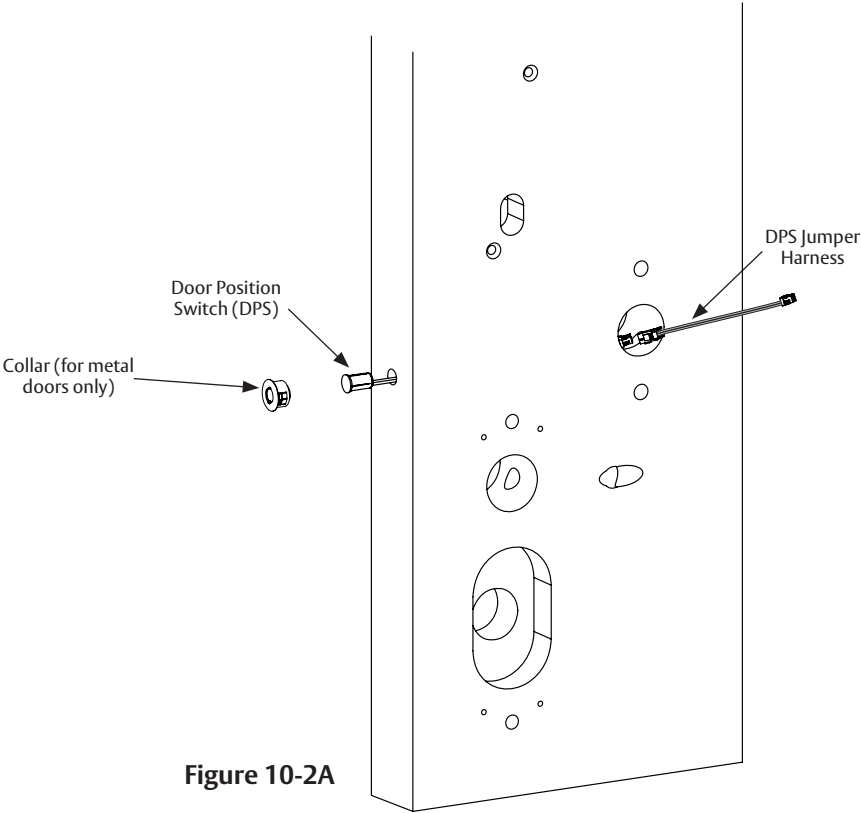

Figure 10-2A
1. Insert connector end of DPS through the raceway on the latch edge of the door (Figure 10-2A).